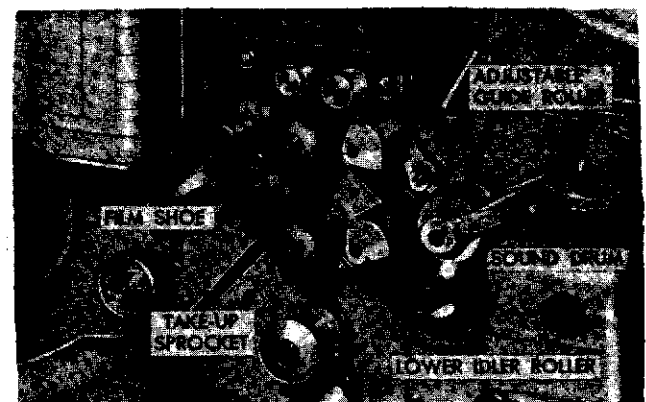

Figure 1-18. Engaging Take-up Sprocket Teeth
g. Lift the take-up sprocket shoe from the take-up sprocket and pass the film under the lower idler roller and over the take-up sprocket (figure 1-18).
h. Before engaging film perforations with the teeth of the take-up sprocket, gently pull the film taut to the left as shown in figure 1-18. Then release the film enough to permit the lower idler roller to pull